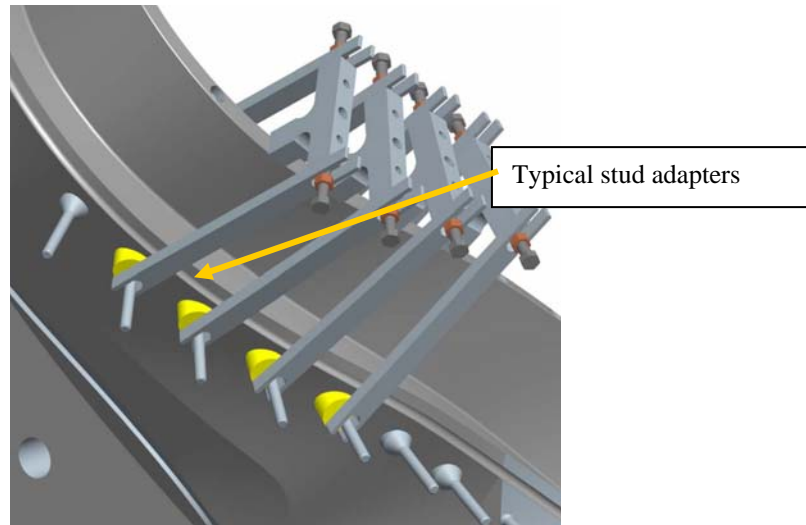
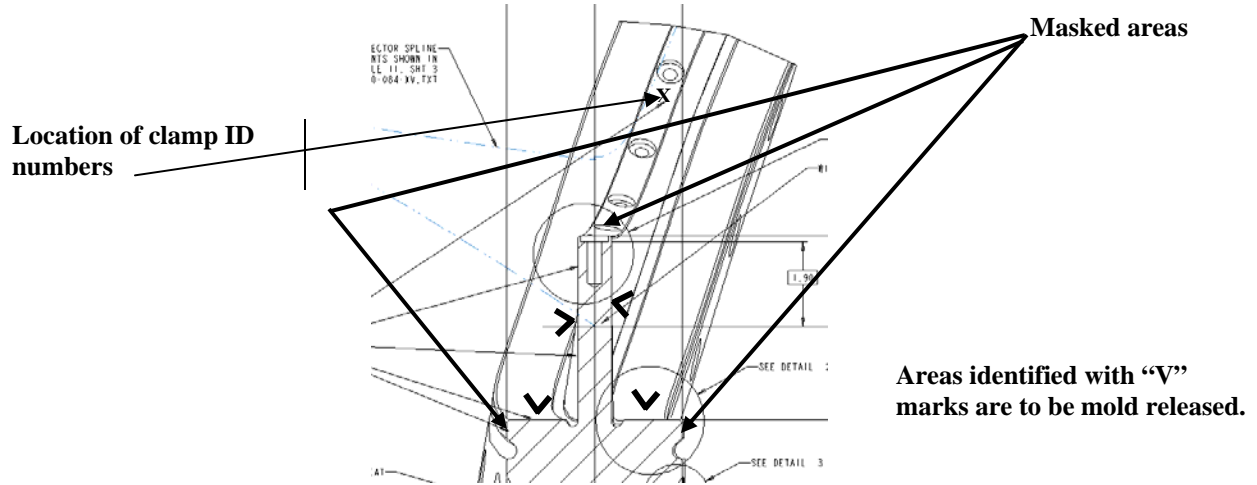

Figure 9- Typical Stud Adapters
Figure 11- Mold Release and Masked Surfaces
- 6.11.1 Identify the ID number of each clamp location. Using a “Sharpie” felt pen write the clamp number directly onto the top of the septum next to the tapped holes. The clamp location numbers will be provided on the coil winding form drawings. See Figure 11- Mold Release and Masked Surfaces
- 6.13.2 On some castings, due to the geometry of the winding form, it may be necessary to add stud adapters directly to the casting prior to the installation of studs. These adapters shall be Tig welded directly to the casting. See Figure 9- Typical Stud Adapters
Mask the surfaces identified in Figure 9 with masking tape. Apply (3) coats of mold release (“Miller-Stephenson”-PTFE MS122DF) to the winding surfaces. Allow each coat to dry to the touch prior to applying the next coat. Figure 11- Mold Release and Masked Surfaces identifies the surfaces to be coated and masked.